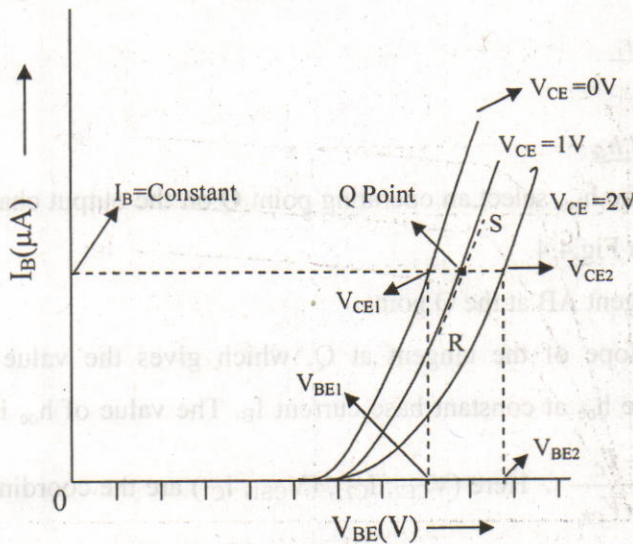

Fig.4.3
1. To determine h_{ie} , select an operating point Q on the input characteristics as shown in Fig.4.3.
5. To determine h_{re} , draw a horizontal line through Q and extend it to intersect the two curves as shown in Fig.4.3.
6. From the values of points of intersection of the I_B -constant line, with the curves, estimate the value of reverse voltage gain h_{re} using Eq.(2) i.e.